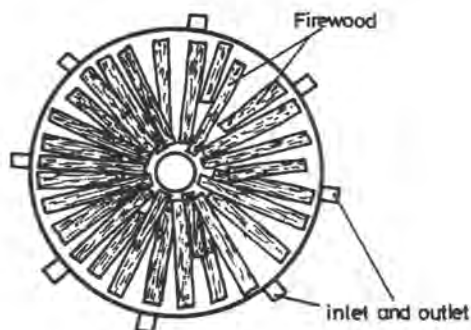

Figure 3.2: Wood pieces arranged radially from the circumference of the lower section of portable metal kiln to the centre
- Place the (hollow) bottom kiln compartment on the ground and arrange the wood pieces radially from circumference to centre of the cylinder. Ensure the ends of the inlet/outlet channels and the spaces between them are not blocked (Figure 3.2).